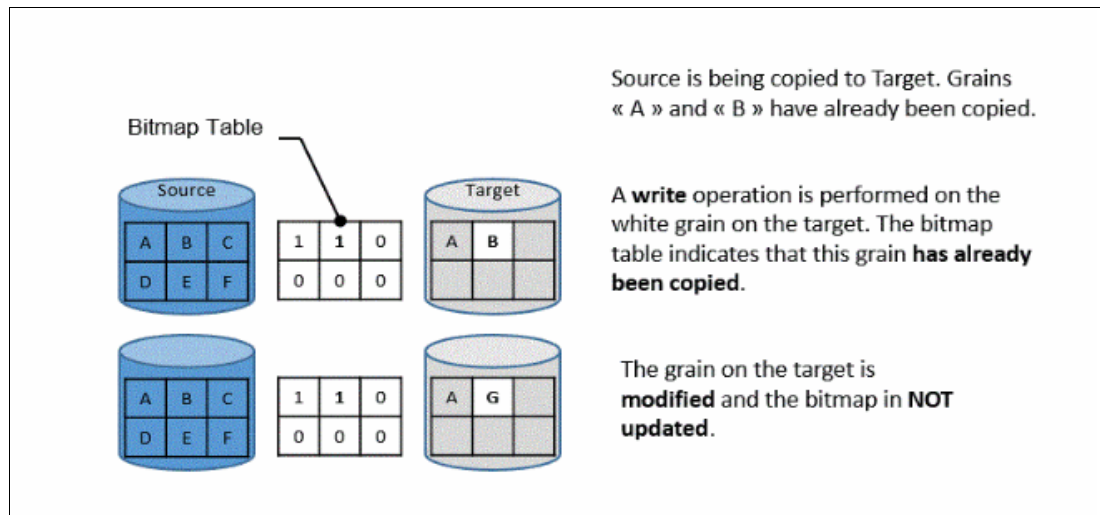

Figure 10-8 Modifying an already copied grain on the target
- If the bitmap indicates the grain to be modified on the target was copied, it is directly changed. The bitmap is *not* updated, and the grain is modified on the target with the new value, as shown in Figure 10-8.